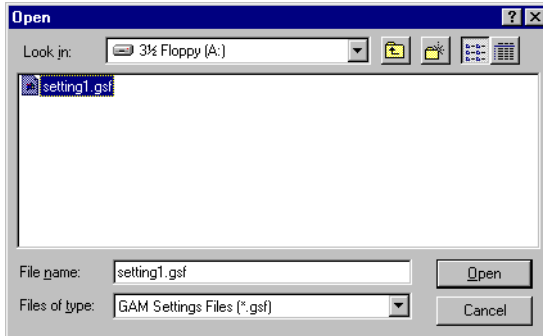

Figure 5-23. Open Previously Saved Settings
1. Click Open Settings. An Open dialog box is displayed (Figure 5-23).